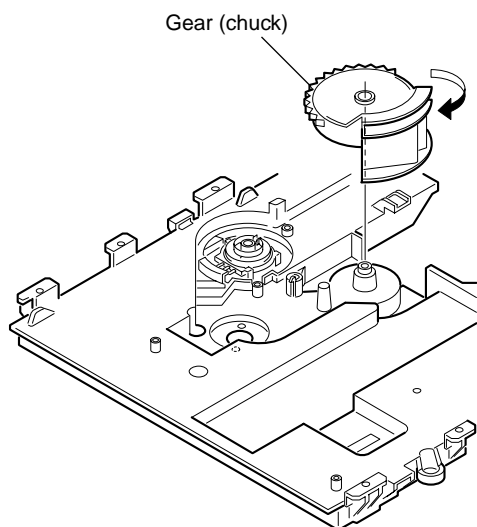

Fig. 5
- 1) Mount the gear (chuck). (See Fig. 5)
- 2) Rotate the gear (chuck) in the direction of the arrow. (down position) (See Fig. 5)